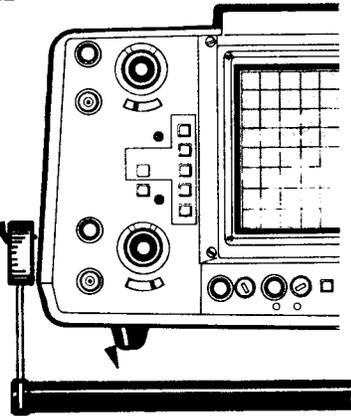

Figure 3-2. Carrying handle positioning.
d. Carrying Handle Positioning. The instrument handle can be positioned for carrying or as a tilt stand. There are several detent positions provided for convenient carrying or viewing. The instrument may also be set on its rear-panel feet for operation or storage. To position the handle (see CAUTION below), press in at both pivot points (see Figure 3-2) and position the handle to the desired position, then release the pivot points.